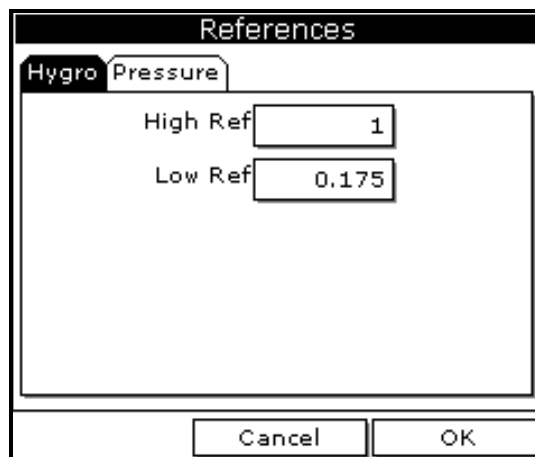

Figure 30: References Window
3. Use the arrow keys to scroll to References and press **[ENTER]**. The screen appears similar to Figure 30.